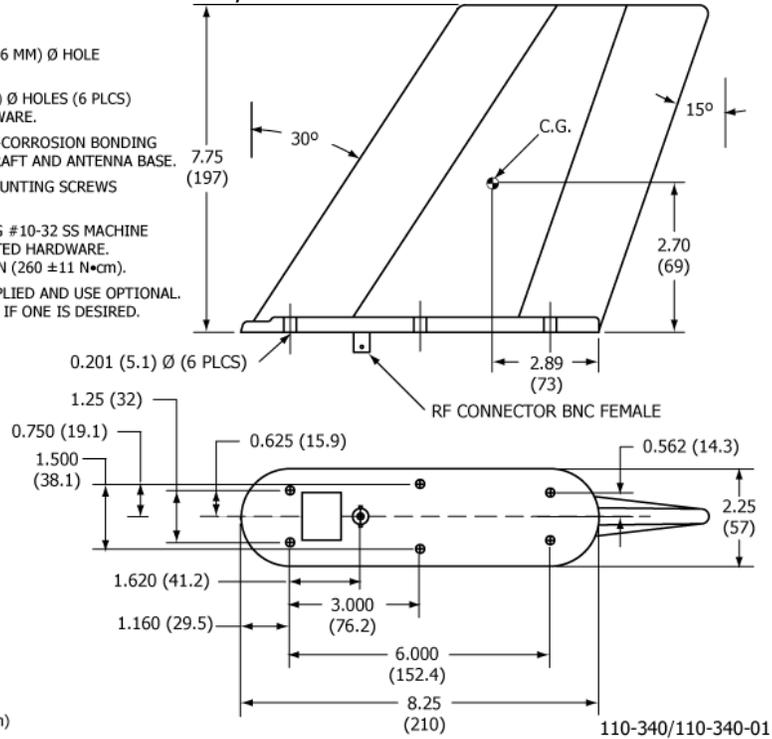
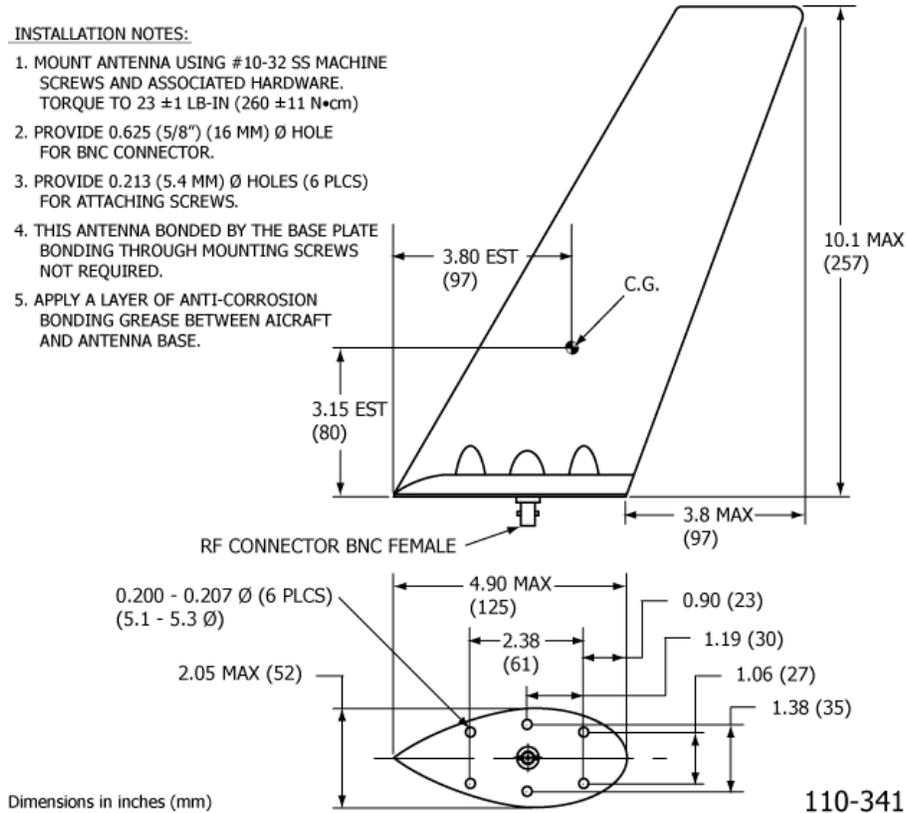

Figure 15 Blade Antenna 110-340/110-340-01 Outline and Dimensions
Figure 16 Blade Antenna 110-341 Outline and Dimensions
- 2) Drill the antenna mounting holes and coax connector hole referring to the appropriate antenna illustration for hole patterns and hole sizes. See Figure 14, Figure 15, and Figure 16. Tighten mounting screws in accordance with the installation notes in the antenna drawing.